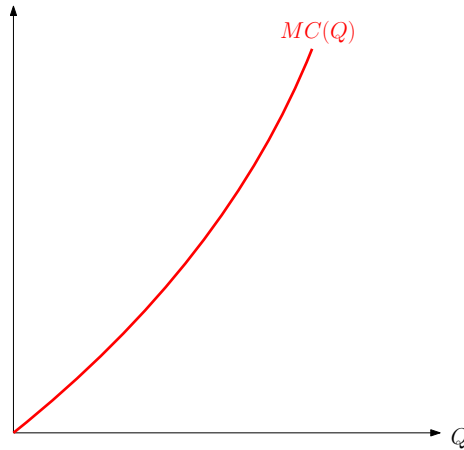

Figure 6: An increasing marginal cost function.
- If the production function satisfies diminishing marginal product, then $MC(Q)$ is increasing. So it looks like the one in Figure 6.